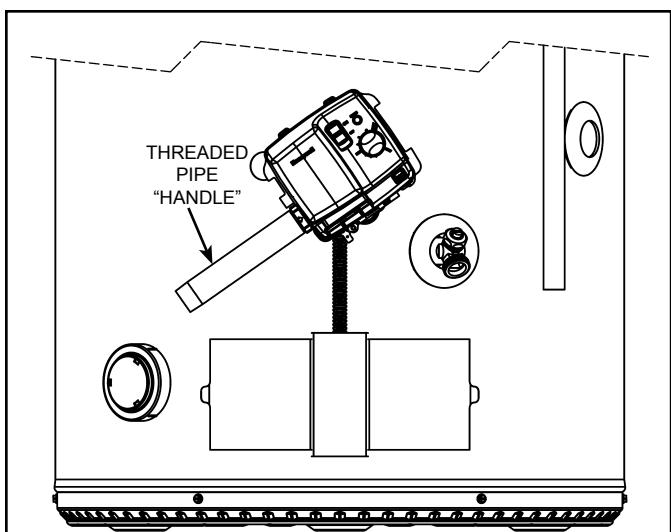

Figure 27
11. After ensuring the water heater is completely drained, thread a short length of 1/2" threaded pipe into the inlet connection of the gas control valve/thermostat and use it to turn the gas control valve/thermostat counter-clockwise to remove (see Figure 27). Do not use any type of wrench on the valve body as it may cause damage to the gas control valve/thermostat assembly.
2. Thread a short length of 1/2" threaded pipe into the inlet connection of the new gas control valve/thermostat and use it to turn the gas control valve/thermostat clockwise to tighten into place (**Note:** Do Not over tighten or damage may result, but it needs to be water tight (see Figure 27)).